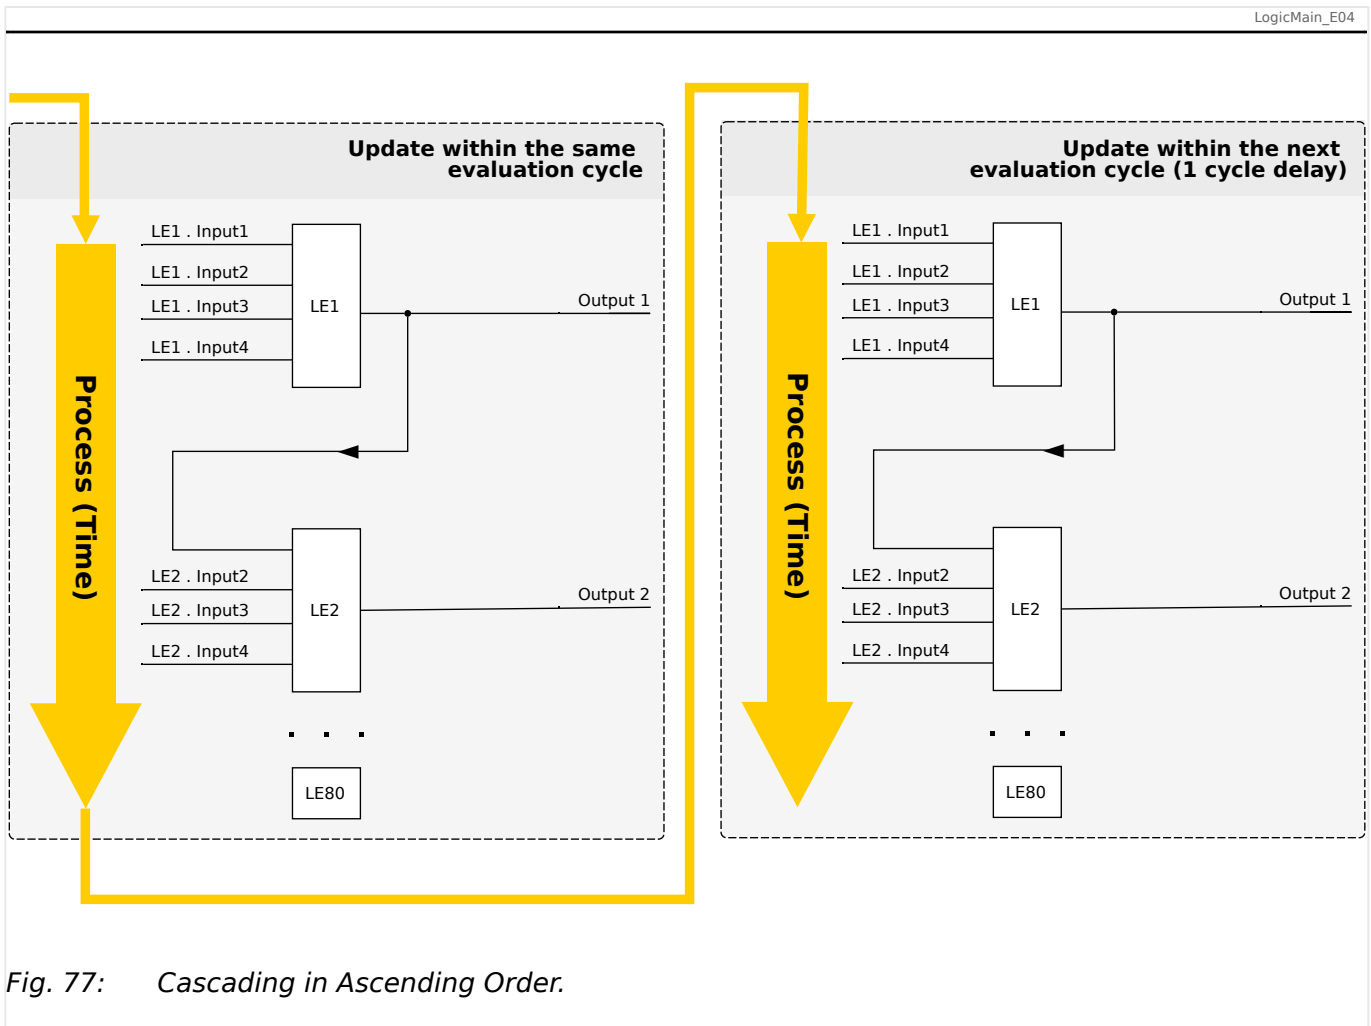
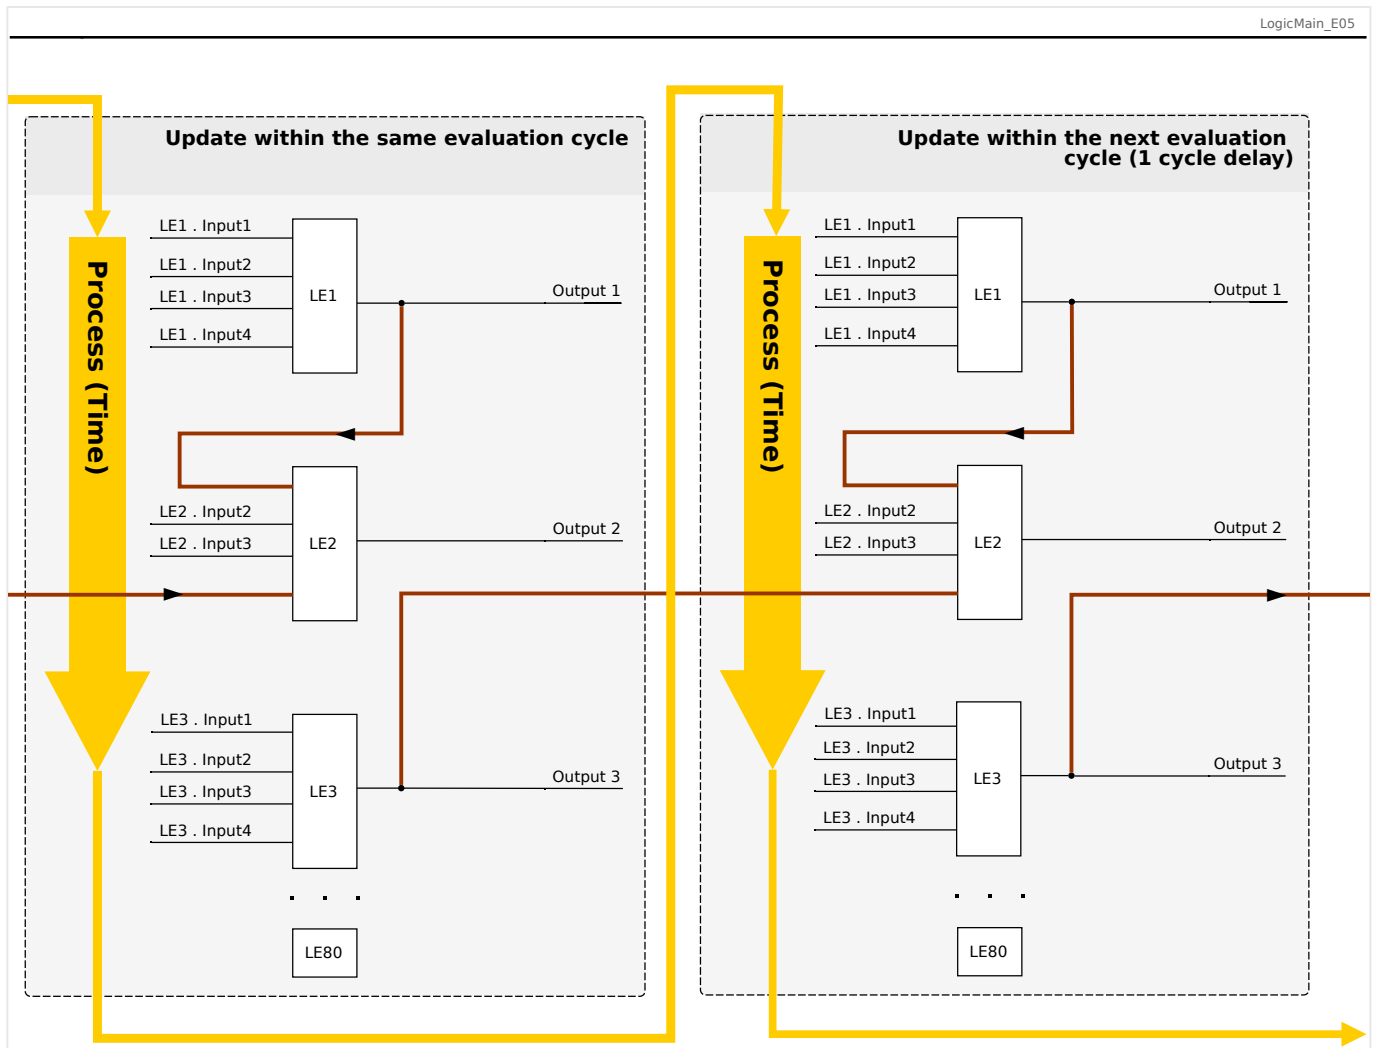

Fig. 77: Cascading in Ascending Order.
Fig. 78: Cascading in Descending Order.
- **Ascending** sequence means that some output is fed into the input of a logic equation with **higher** number. For instance, diagram  Fig. 77 below shows an example where the result of Logic Equation LE1 is used as an input of Logic Equation LE2.
- **Descending** sequence means that some output is fed into the input of a logic equation with **lower** number. For instance, diagram  Fig. 78 shows an example where the result of Logic Equation LE3 is used as an input of Logic Equation LE2.
Both ascending and descending sequences may be used and combined one with the other, with no immediate difference. However, due to the evaluation of all equations in ascending order the actual run-time values that are fed in at the input of an equation will have a different “age”, as is shown in  Fig. 77 and  Fig. 78 below.
In the example shown in Fig. 78 above, “Logic Equation 2” uses the output states of two other equations, “Logic Equation 1” and “Logic Equation 3”. The result of “Logic Equation 1” is used in ascending order and has therefore been evaluated within the same process cycle. The result of “Logic Equation 3” is used in descending order and has therefore been evaluated in the previous process cycle.